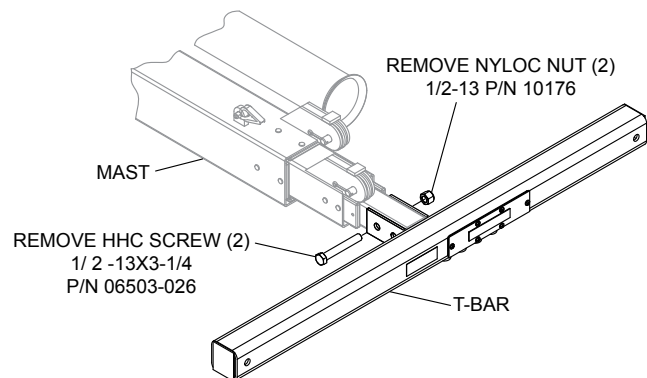

Figure 6. Removing Screws and Nuts
1. Remove the screws and nuts at the T-Bar and mast assembly interface. Set them aside as they will not be used in the installation. See Figure 6.